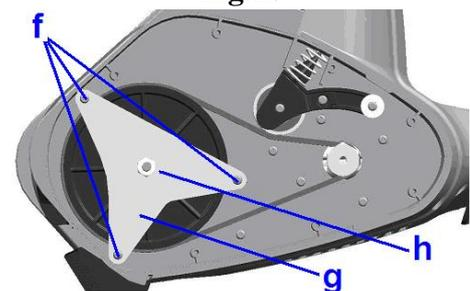

Fig.11
2. [Fig.11] Retirer le contre-écrou bride (h)